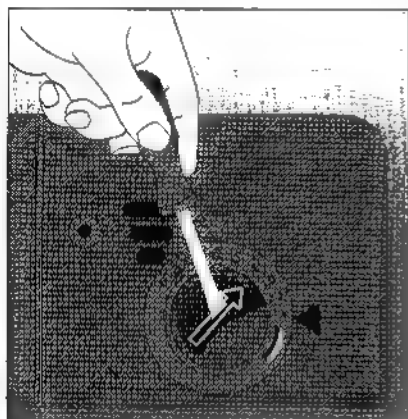

Fig. 9
- ☐ To adjust the dispenser, turn the locking lid of the rinse aid dispenser a quarter of a turn anti-clockwise and open. (Fig. 9)